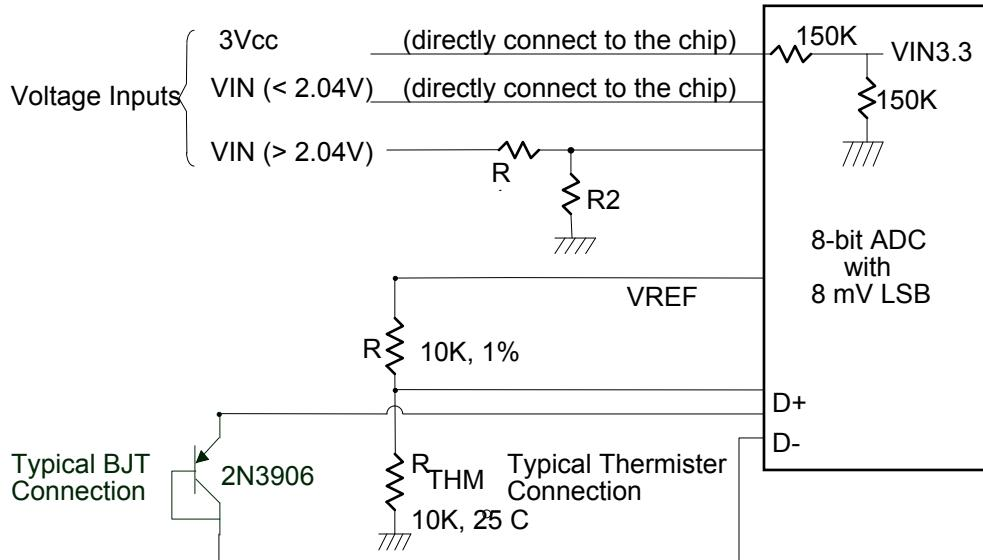

Fig 6-1
For the 8-bit ADC has the 8mv LSB, the maximum input voltage of the analog pin is 2.048V. Therefore the voltage under 2.048V (ex:1.5V) can be directly connected to these analog inputs. The voltage higher than 2.048V should be reduced by a factor with external resistors so as to obtain the input range. Only 3Vcc is an exception for it is main power of the F81866A. Therefore 3Vcc can directly connect to this chip's power pin and need no external resistors. There are two functions in this pin with 3.3V. The first function is to supply internal analog power of the F81866A and the second function is that voltage with 3.3V is connected to internal serial resistors to monitor the +3.3V voltage. The internal serial resistors are two $150\text{K}\Omega$, so that the internal reduced voltage is half of +3.3V (See figure 6-1).
(1) Monitor Temperature from “thermistor”
The F81866A can connect two thermistors to measure environment temperature or remote temperature. The specification of thermistor should be considered to (1) β value is 3435K (2) resistor value is $10\text{K}\Omega$ at 25°C . In the Figure 6-1, the thermistor is connected by a serial resistor with $10\text{K}\Omega$, then connected to VREF.
(2) Monitor Temperature from “thermal diode”
Also, if the CPU, GPU or external circuits provide thermal diode for temperature measurement, the F81866A is capable to these situations. The build-in reference table is for PNP 2N3906 transistor. In the Figure 6-1, the transistor is directly connected into temperature pins.